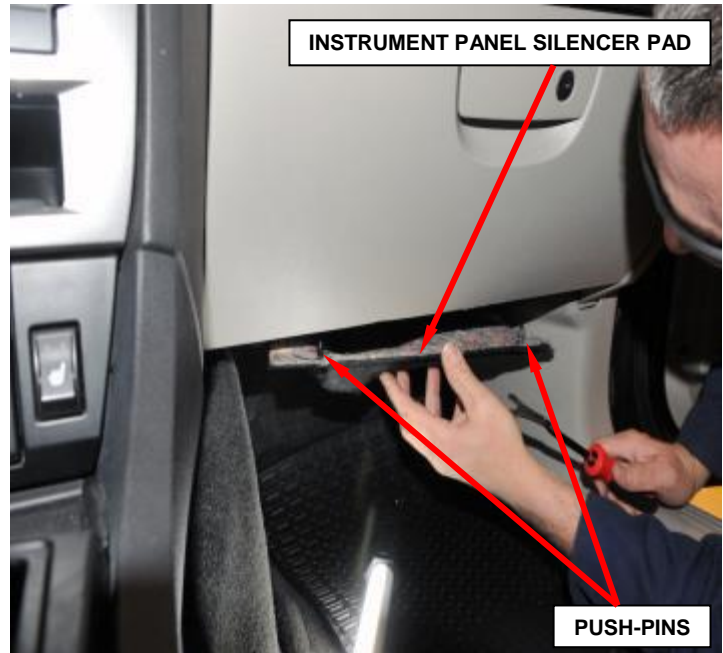

Figure 50 – Instrument Panel Silencer
- a. Remove and save the two push-pins that secure the instrument panel silencer to the instrument panel (Figure 50).